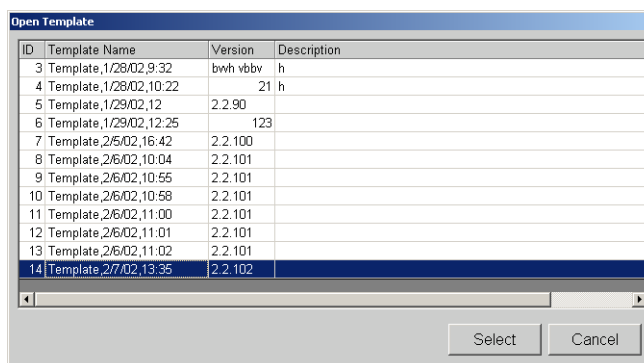

Figure 5-68 Open Template To Update New Lots
1. On the **Home** tab, click **New Lot**. The **Open Template** dialog box opens. See Figure 5-68.